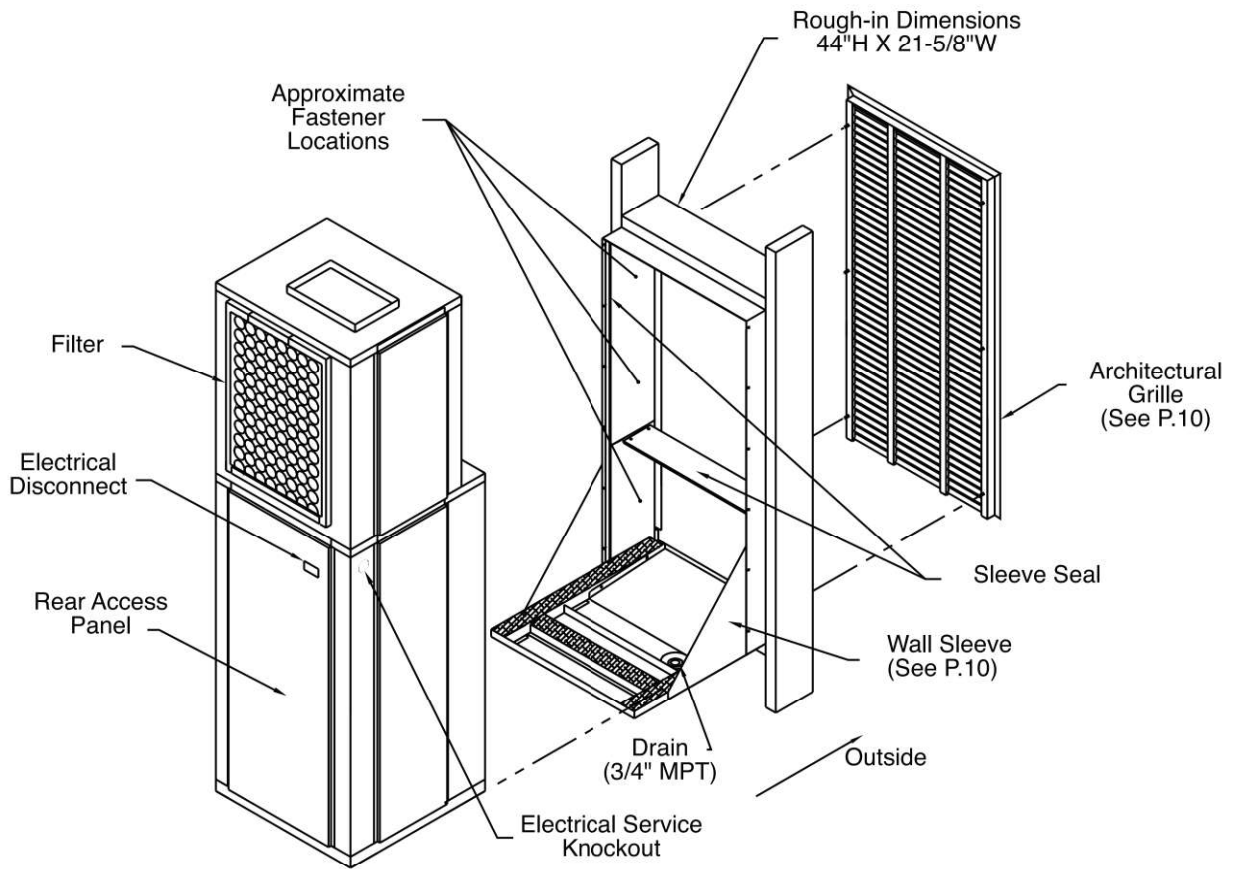

Figure 1 - General Assembly for standard sleeve and Grill
5. **Wall Sleeve** – (See Figures 1,1A,1B, 4 and 5) Rear or side install wall sleeves are provided for installation during rough-in and, when ready, the SPXC unit is simply slid into the sleeve and the ductwork and electrical connected. The sleeve is a weight-bearing sleeve that supports the entire weight of the SPXC unit and provides a weather tight seal against wind and water infiltration. A 3/4" male NPT fitting is provided in the bottom of the sleeve for field connection to a condensate riser. Four wall sleeve depths are available to accommodate wall thickness from 5" to 20". Each sleeve includes a factory installed "weather guard" to cover the sleeve opening during construction.